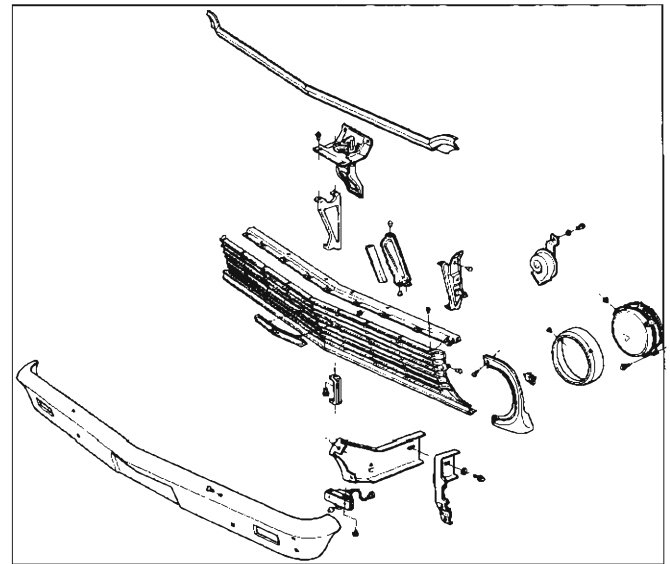

Fig. 7—Grille Assembly—Chevy II
**GRILLE ASSEMBLY—CHEVY II (See. Figs. 7 and 8)**